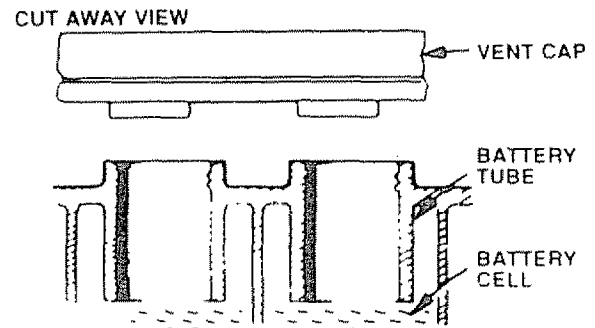

FIGURE 22
- Battery acid level in each battery cell should be even with bottoms of tubes in cells (Fig. 22). Add **ONLY** distilled water if necessary. NOTE: DO NOT OVERFILL